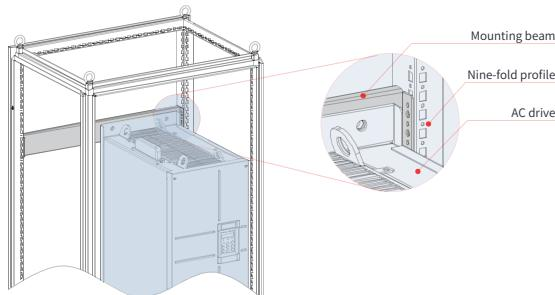

Figure 3-16 3D view of a 200–400 kW cabinet
2. To install the CS710-4T200G to CS710-4T400G models into a nine-fold profile cabinet with the depth of 600 mm, bend the fixing beam inwards (as shown in Figure 3-16). (This step is unnecessary if the AC drive is installed in a standard cabinet with the depth of 800 mm or above.)